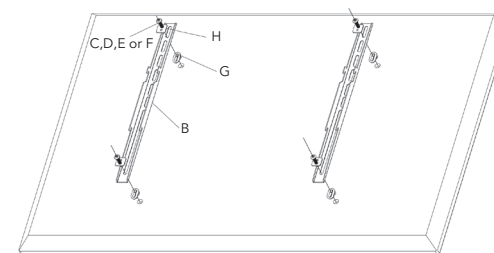

fig. 3
Before installation, the monitor brackets (B) must be vertically placed and the distance from the television should be as short as possible. For a television that has the slot in the back, thread the screws (C,D,E or F) through the square pad (H), hooks (B), spacers (G) into the television, and finally tighten the screws firmly with a Philips screwdriver (as shown in fig. 3).